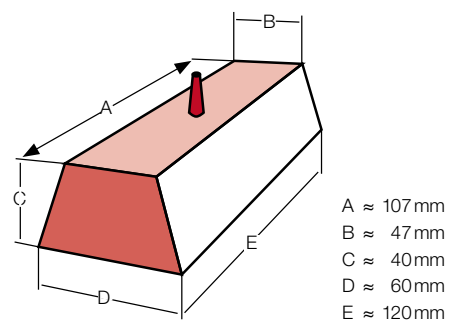

Fig. 42: Test box
1) Impeded shrinkage, see Fig. 42, line A, wall thickness 1.5 mm, holding pressure 800 bar
The shrinkage values measured on plates 60mmx60mmx2mm according to ISO 294 can be used to compare the shrinkage of different materials. The plaques injected with a film gate have the minimum and maximum shrinkage parallel and perpendicular to the flow direction because of the high orientation of the molecules and, particularly, the fibers. The value measured on the test box (Fig. 42) can be used as a guide for the average shrinkage in a real part since, here, the flow front tends to run radially from the injection point. Table 9 gives an overview of the shrinkage values of various Ultramid® grades.